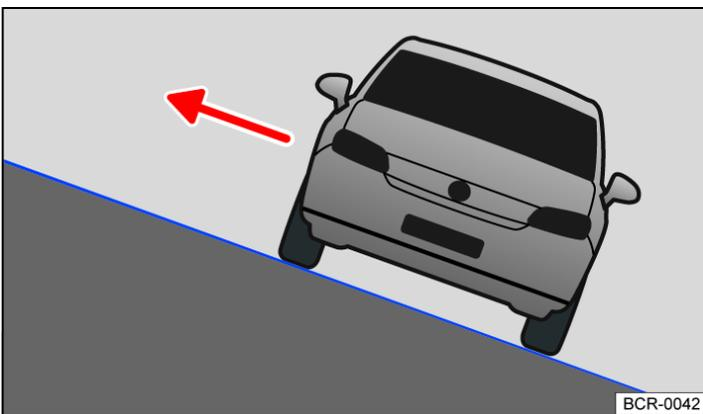

Fig. 2 Illustration: use the doors facing up hill to get out of the vehicle.
- Vehicle occupants should never leave the vehicle via the doors facing down the hill if the vehicle is stopped on a slope with a large side inclination angle. This could cause the centre of gravity to move sideways. The vehicle could tip or roll over and roll down the hill. To avoid this, always leave the vehicle carefully on the side that is facing uphill → *Fig. 2*.